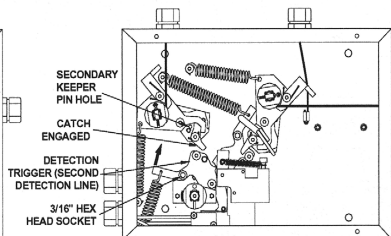

Figure 12.
2. Place the Keeper Safety Pin into the Primary Detection Arm Assembly to prevent the accidental release of the Detection Cable. See Figure 12.